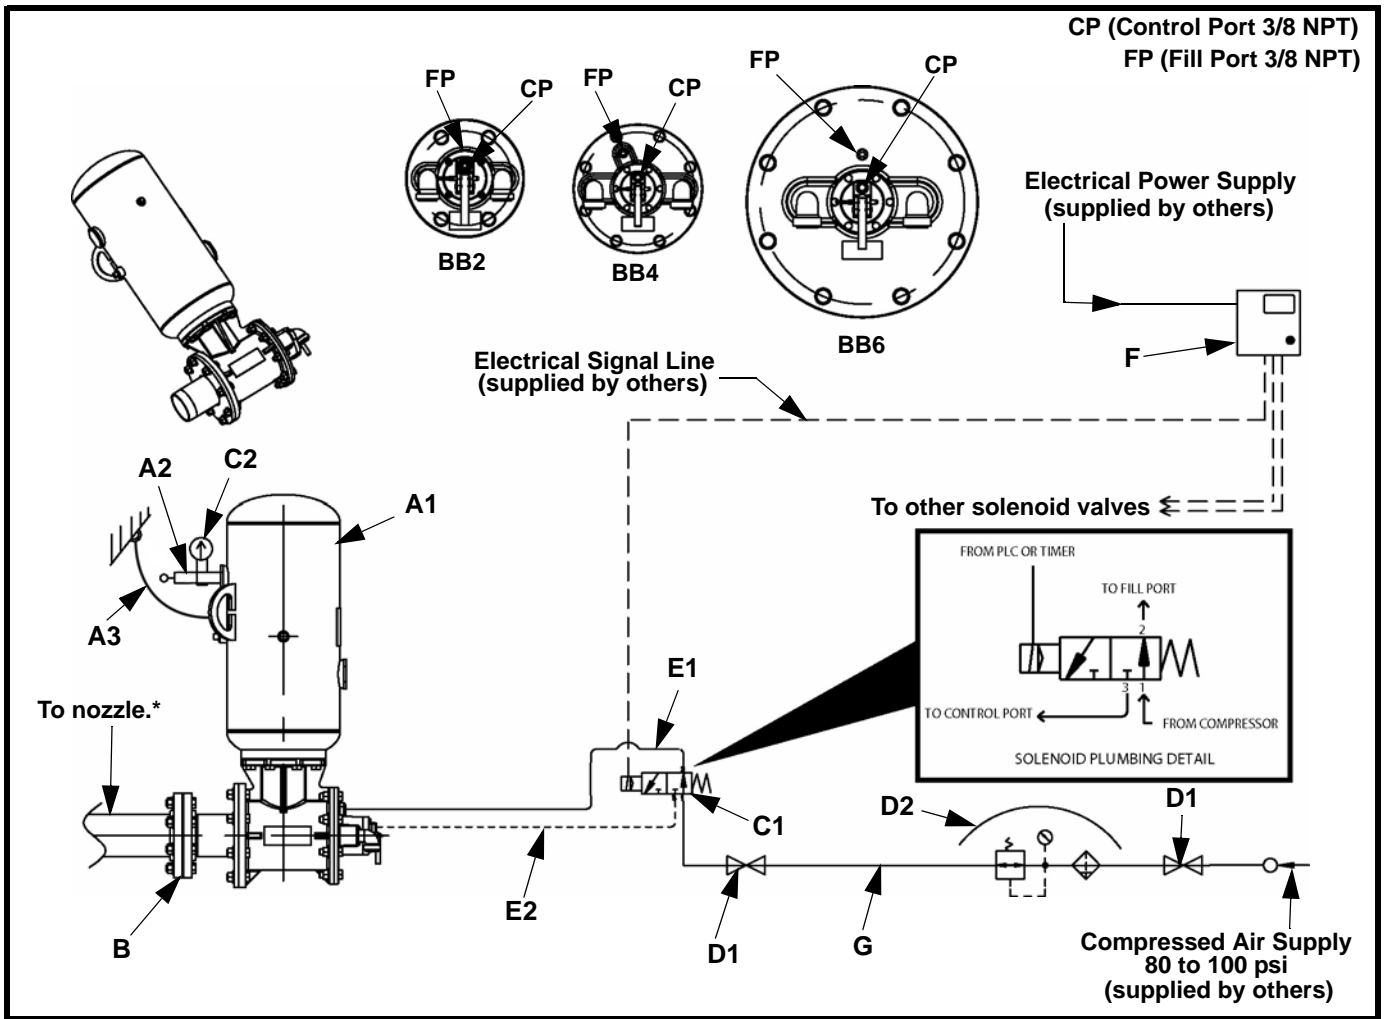

Figure 12. Plumbing Detail for Normally-Opened Solenoid Valve
3. Remove recessed hex-head screw from the valve’s fill port. See Figure 12 or 13.
- a. If using a normally-opened solenoid valve, connect the 3-way electric solenoid valve outlet port (2) to MARTIN[®] TORNADO Exhaust Valve fill port. See Figure 12.